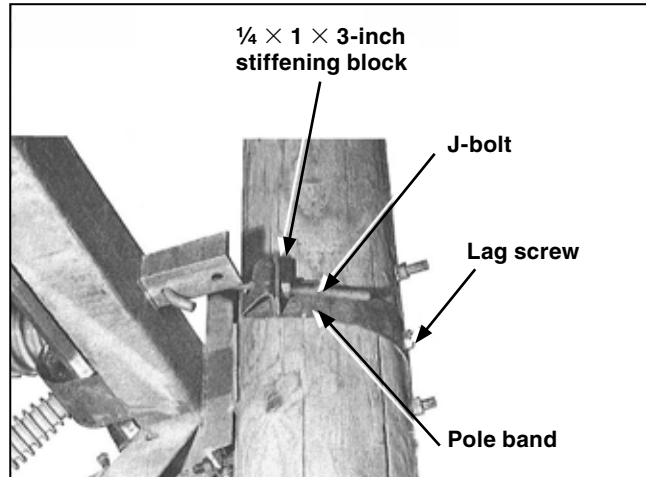

Figure 4. Pole-band attachment detail (typical).
Secure the pole band (furnished) to the anchor holes on the switch-mounting bracket using the J-bolts furnished. See Detail G on the erection drawing. Two $\frac{1}{4} \times 1 \times 3$ -inch stiffening blocks (furnished) are to be used under the nuts securing the J-bolts. See Figure 4. Then, lag the pole-band to the utility pole through the hole provided, using a $\frac{5}{8}$ -inch diameter lag screw (not furnished).
Hoist the switch assembly (with the switch fully closed) using the two lifting angles attached to the switch base, and bolt it to the switch-mounting bracket with the four $\frac{5}{8}$ — $11 \times 1\frac{3}{4}$ -inch galvanized bolts, nuts, flat washers, and lockwashers furnished. See Figure 4. Remove the two lifting angles.
Secure the pole band (furnished) to the anchor brackets on the switch base using the J-bolts furnished. See Section K-K (for upright switches) or Section H-H (for vertical switches) on the erection drawing. Two $\frac{1}{4} \times 1 \times 3$ -inch stiffening blocks (furnished) are to be used under the nuts securing the J-bolts. See Figure 4 on page 10. Then, lag the pole band to the pole through the hole provided, using a $\frac{5}{8}$ -inch diameter lag screw (not furnished). Remove the two lifting angles.
STEP 14. Secure the two pole bands (furnished) to the anchor brackets on the switch base using the J-bolts furnished. See Section J-J on the erection drawing. Four $\frac{1}{4} \times 1 \times 3$ -inch stiffening blocks (furnished) are to be used under the nuts securing the J-bolts. See Figure 4 on page 10. Then, lag the pole bands to the pole through the holes provided, using $\frac{5}{8}$ -inch diameter lagscrews (not furnished). Remove the two lifting eyebolts.